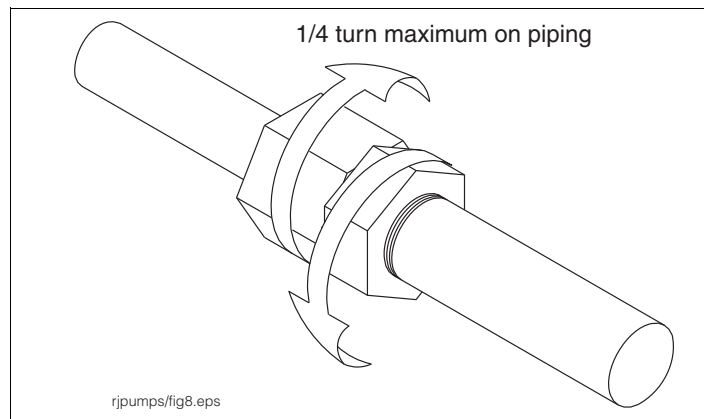

Figure 10. Loosening column pipe locking nut
4. Loosen the clinch assembly on the column pipe by unscrewing the set screw in the side of locking nut, then backing off the locking nut (see Figure 10).